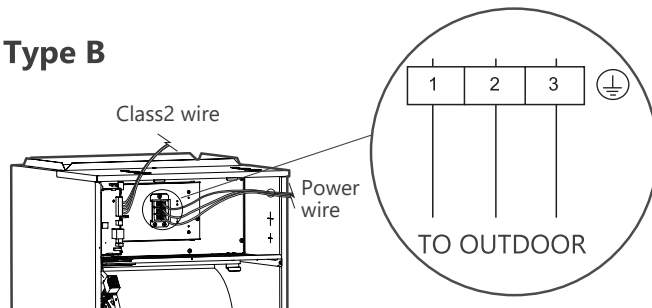

Fig. 7-3: Power Wiring Location
5. Connect the conduit-to-conduit panel (see Fig. 7-3).